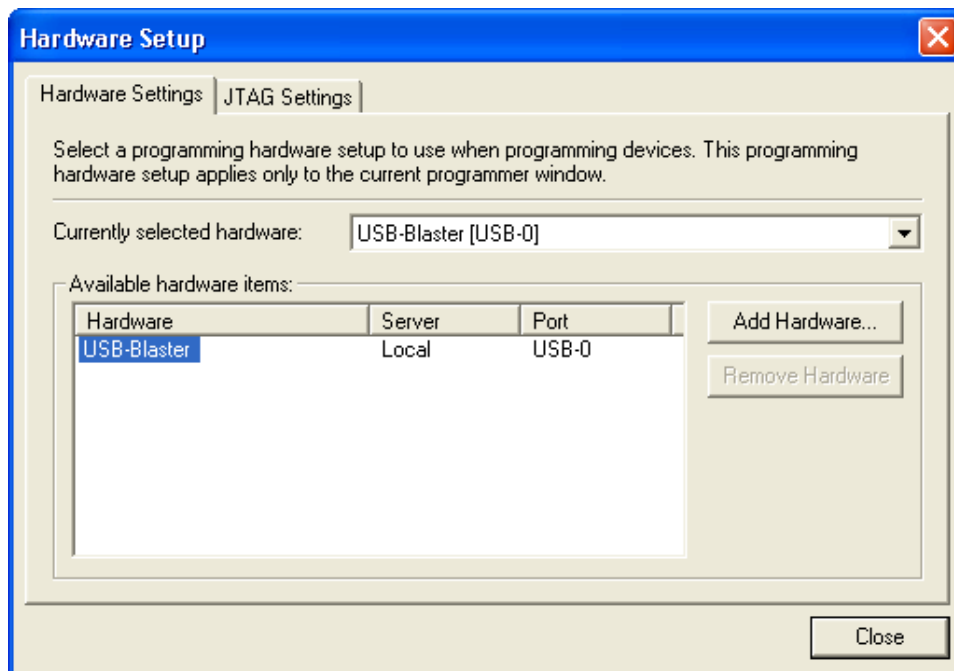

Figure 10. Setting up hardware.
- For SignalTap II to work, we need to properly set up the hardware. First, make sure the DE2 board is plugged in and turned on. In the Hardware section of the SignalTap II window, located in the top right corner, click **Setup**, bringing up the window in Figure 10. Double click USB-Blaster in the Available Hardware Items menu, then click **Close**.